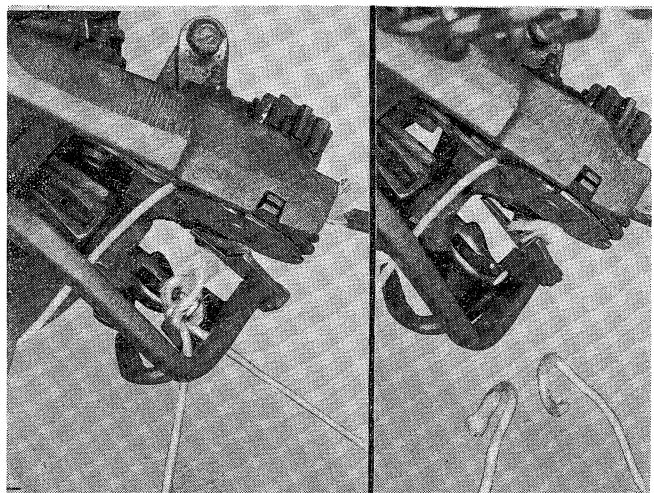

Figure 71
To adjust the tension on the twine holder, loosen the jam nut (2), Figure 71, and increase or decrease the tension gradually by turning the bolt (1), 1/4 turn at a time. After adjusting, tighten the jam nut (2), securely.
If there is not enough tension on the bill hook tongue, it will not pull the twine ends through the loop as it is wiped off by the stripper. This results in no knot in either end of the twine, as shown in Figure 71. Or, if the ends are pulled through, the knot is loosely tied. In some cases the ends are pulled only partly through, forming a single or double loop.